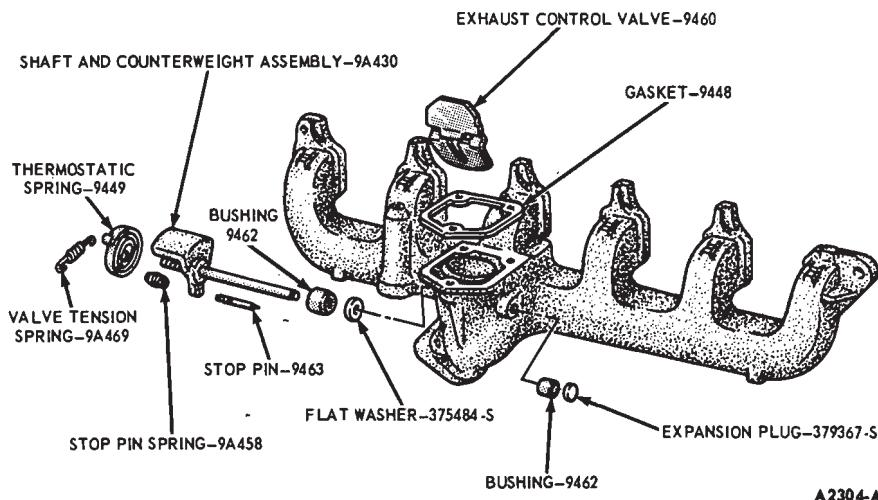

FIG. 29—Exhaust Control Valve Assembly—240 Six
- Remove the valve tension spring and the thermostatic spring from the exhaust control valve shaft (Fig. 29).